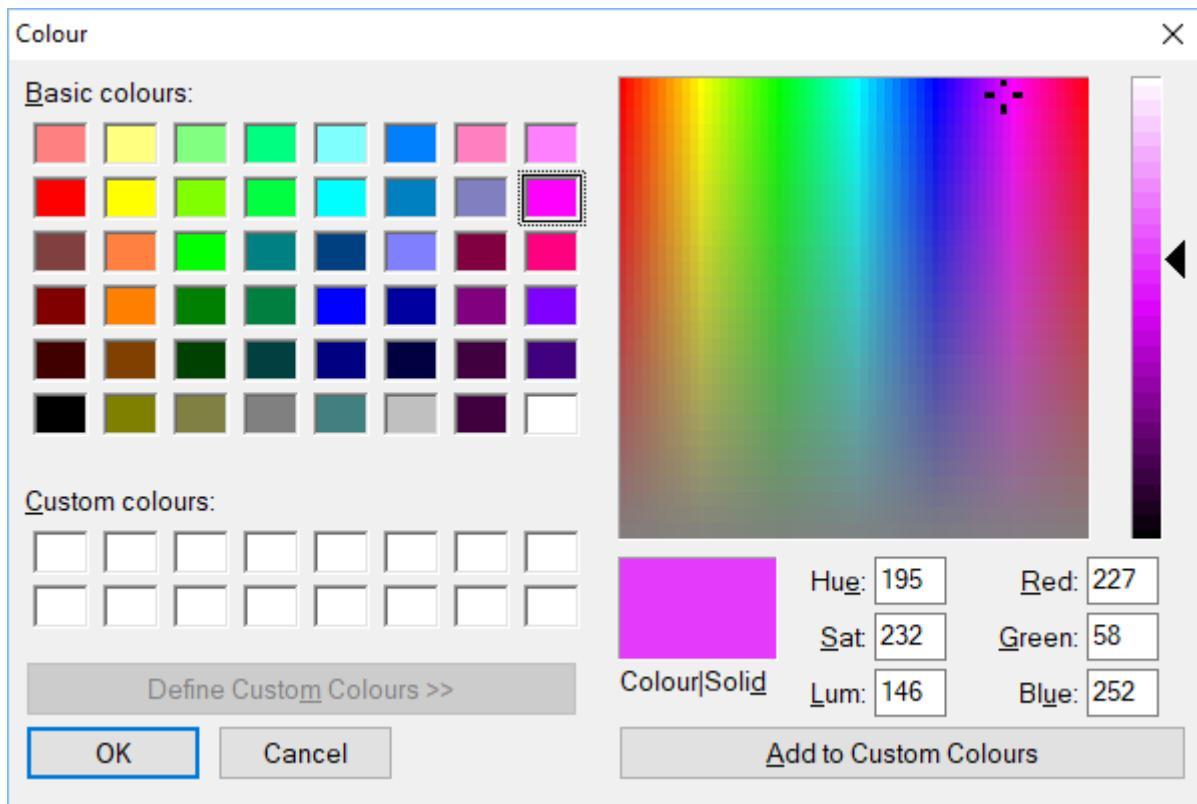

Figure 2. The colour picker window. The values for a colour's hue, saturation and lightness (or luminance) are shown just below the colour square.
- Coldest colour* Click the colour box to open the standard *Colour picker* window (shown in figure 2, below). Here you should select the colour to use for the coldest areas of the heat map - i.e. the parts where the animal spent no time. There are some things to consider when choosing a colour, which are explained below.
In the world of computers, colours are often defined as a mix of the primary colours Red, Green and Blue (usually referred to as RGB). But there's another, less well known way to define colours, which is based on their Hue, Saturation and Lightness (or HSL). Here, Hue is the colour itself (such as orange or green), Saturation is how much of the colour we have (so no saturation is grey and full saturation is very orange or very green) and Lightness (also sometimes called luminance) is how bright the colour is (so low lightness is a dark orange and high lightness is a pale orange). In fact, you'll see a colour's HSL values in the colour picker window which ANY-maze uses - see figure 2, below.